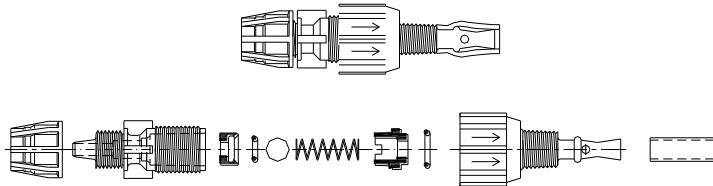

Figure 4: Injector valve
- 4) Apply Pipe tape to the injection fitting threads and install into piping system. **Do not remove the plastic sleeve on the tip of the fitting; it is a functional part** – see Figure 4.
To install tubing remove the compression fitting's coupling nut and sleeve and slide onto tubing with the sleeve located .38-in (9,5mm) from the tubing end – see Figure 4. Place tubing into fitting and hand tighten the coupling nut. **NOTE:** Immerse tubing in hot water to soften prior to pushing on to fitting. **Hand-tighten only, do not use wrenches. For in line check valve location, do not insert the tube more than .38in into the valve body.**